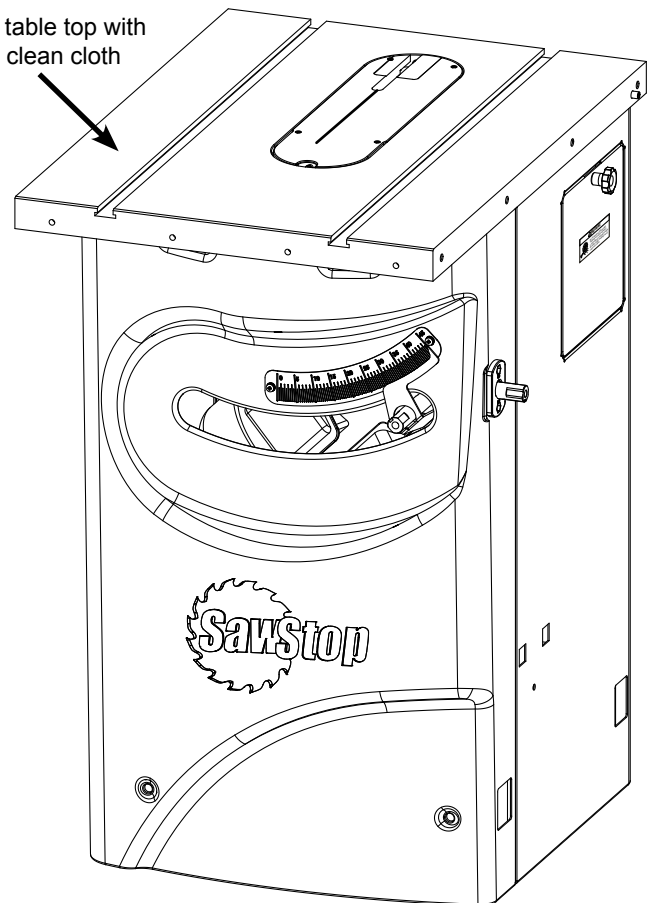

Fig. 6
1. Once the saw is in the upright position, remove the plastic covering from the cast iron table top and remove the yellow label from the top of the table insert. Wipe the oil off the table top with a soft, clean cloth (see Fig. 6). Do the same for the extension wings. The table top and extension wings are shipped with a coating of oil to prevent the cast iron from rusting.